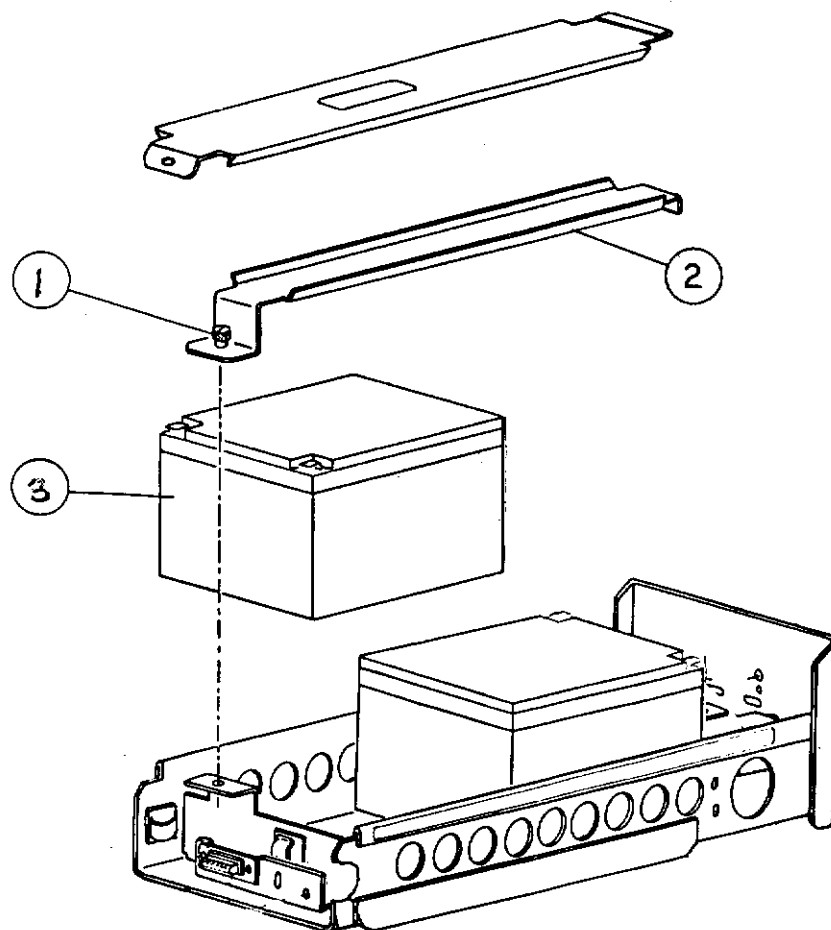

FIGURE 5.6 BATTERY REPLACEMENT
2. REFER TO FIGURE 5.6, loosen the battery clamp retaining thumbscrew (item 1) and remove battery clamp (item 2) by raising the rear end of the clamp until it unhooks from the front of the tray.
3. DISCONNECT THE RED AND BLACK LEADS from the defective battery (item 3) and remove the battery from the tray.